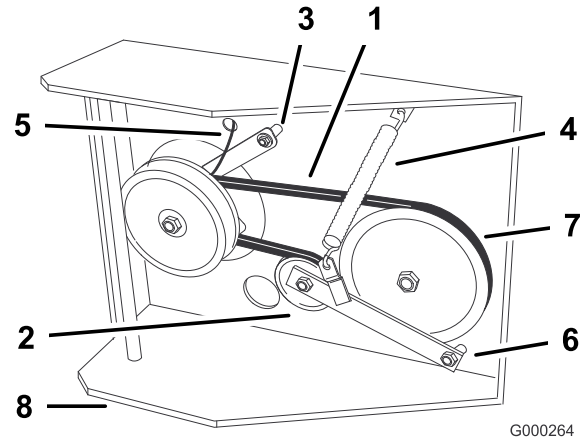

Figure 47
6. Disconnect clutch retainer from the engine deck (Figure 47).
7. Unhook tension spring from side of frame (Figure 47).
10. Torque pivot bolt to 35-40 ft-lb (47-54 N-m). Install tension spring between idler arm and frame bracket (Figure 47).
11. Install clutch retainer to the engine deck (Figure 47).